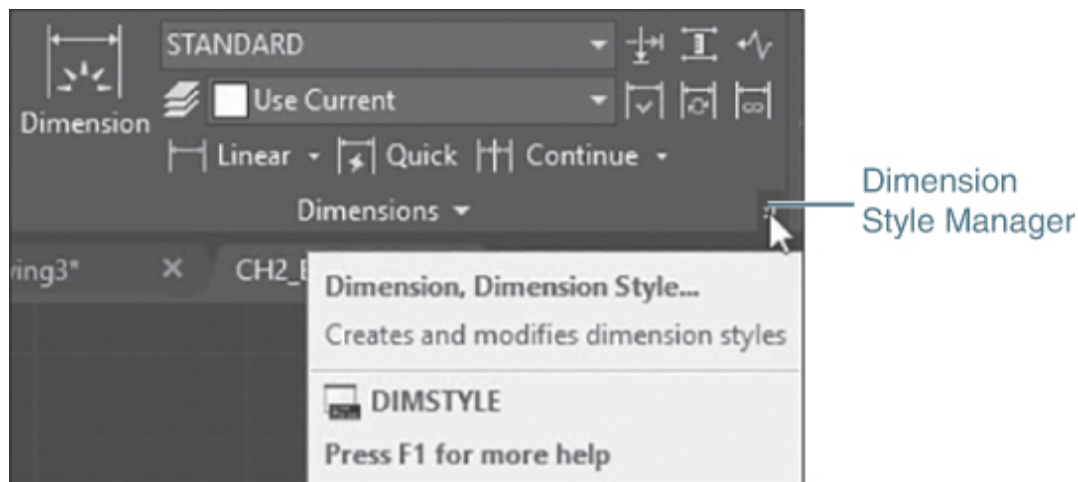
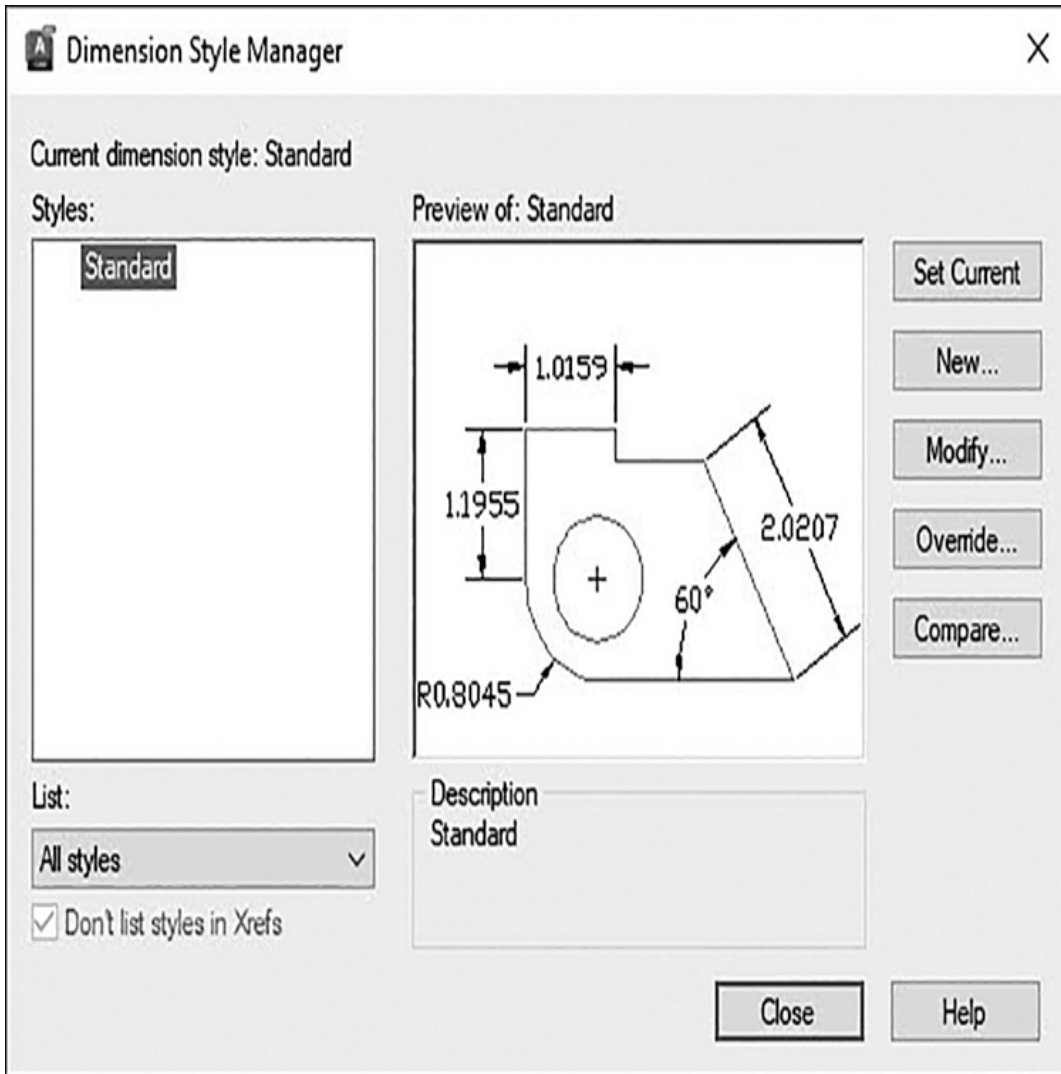

Figure 2-29
Figure 2-30
- 2 Choose the **Dimension Style** tool from the **Dimensions** panel by selecting the down arrow on the right side of the panel title bar, as shown in Figure 2-29. The **Dimension Style Manager** dialog box appears (see Figure 2-30).
AutoCAD's dimensioning tools can automatically measure distances and place dimensions on your drawing. You can simply select objects and let AutoCAD add the appropriate dimensions, or you can tell AutoCAD what type of dimension you want to place and what object or points you wish to dimension. You can access the dimension tools from the **Dimensions** panel on the **Annotate** tab of the ribbon shown earlier in Figure 2-29.